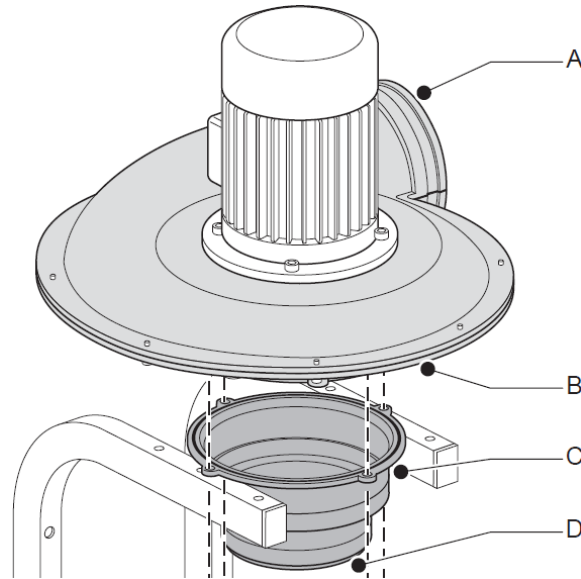

Figure 8 : Tapered Connection Flange
Position the tapered connection flange (See Figure 8 : Tapered Connection Flange on page A-7 , item C) on the wall mounting brackets. Use the (2) 0.75" long and (2) 2.5" long bolts with washers supplied with the fan to secure the Prism™ 2400 Stationary Fan (item B) and the tapered connection flange to the wall mounting brackets. Tighten all bolts securely to make a good seal on the inlet of the fan.